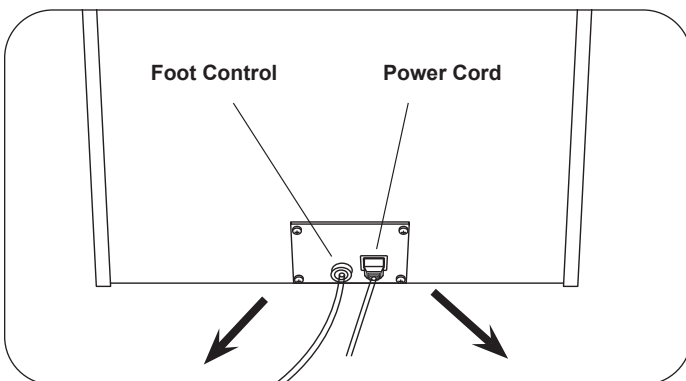

Figure 11. Power Cord and Foot Control Plugs
15. Unplug foot control and power cord and place into rear storage drawer (Figure 11). The power cord for Models 6000/6500/6800/6000PLUS/6500PLUS, and 6800PLUS are attached to the table. You may want to place the receptacle end of the cord into the rear storage drawer to prevent damaging it while transporting the table.